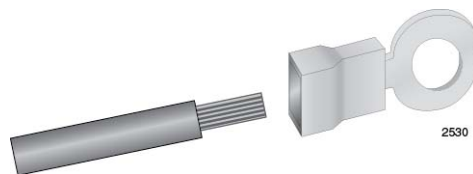

Figure 126. Attaching the Stranded Grounding Wire to the Grounding Terminal
2. Insert the grounding wire into the grounding terminal provided with the power supply and use a crimping tool to secure it to the grounding terminal. See Figure 126,